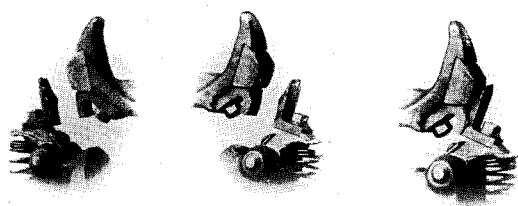

Fig. 4—Worn Contacts Requiring Replacement
10. **Contacts**—Fig. 3 illustrates a set as they appear when new. When they have worn away, as shown in Fig. 4, they should be replaced. Since the surface of a new contact will not fit that of one which is worn, they should always be replaced in sets—never singly.